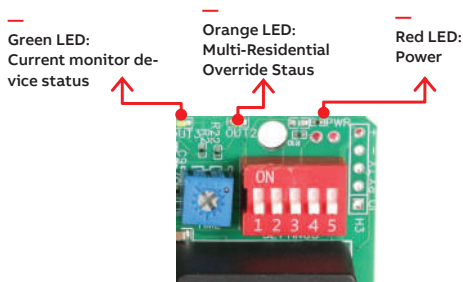

Figure 4 - This image is for illustrative purposes only and may not accurately represent customer's installation.
- 2- Ensure the red LED (PWR) is on, indicating power. (See Figure 4.)
- 3- Verify the green LED on the left-hand side (OUT1) corresponds to the state of the contactor (See Figure 4). If the green LED on the left-hand side flashes continuously, it indicates that there is no current being measured by one or both current monitors.